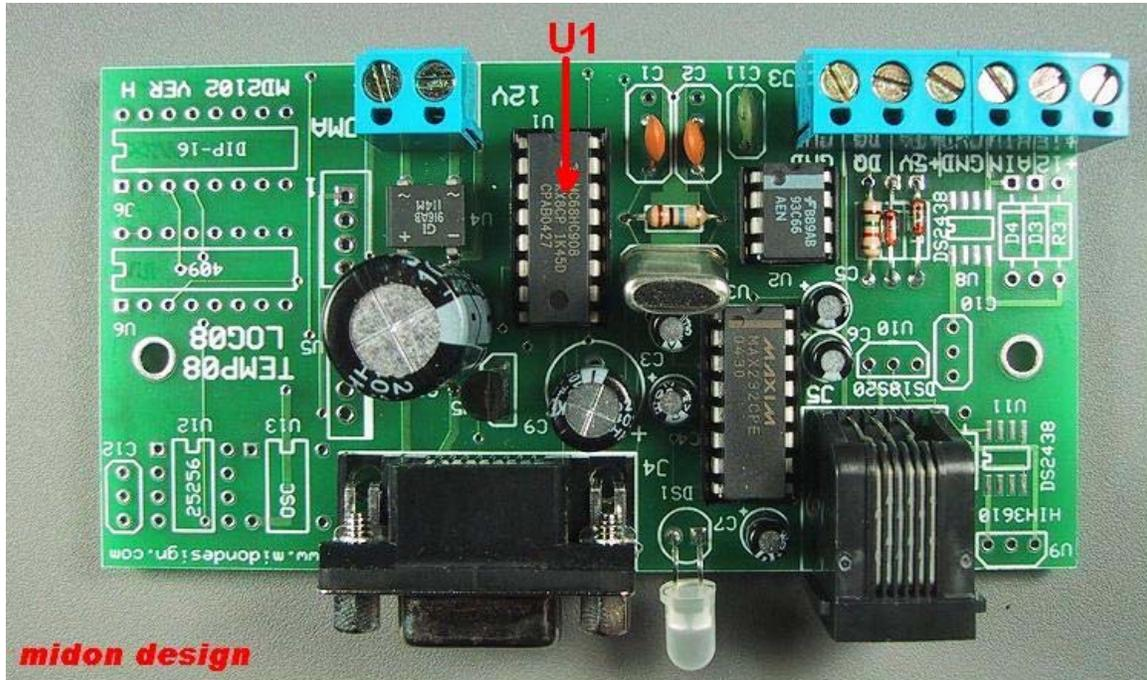

Figure 5 1WSwitch Top View
2. Using a small screw-driver, or similar tool, gently remove U1, the 68HC908KX8 micro-controller, by inserting the screw-driver between the micro-controller and the DIP socket that it is inserted to. The location of U1 is shown in Figure 5.